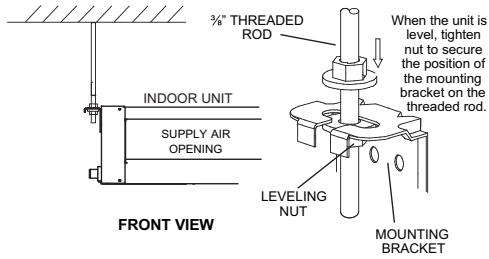

Fig. 14 — Threaded Rod
3. Secure the unit in position with locknuts and washers on both sides of the mounting bracket. Ensure that the threaded rod does not protrude more than 2 inches below the mounting brackets as shown in Fig. 14.